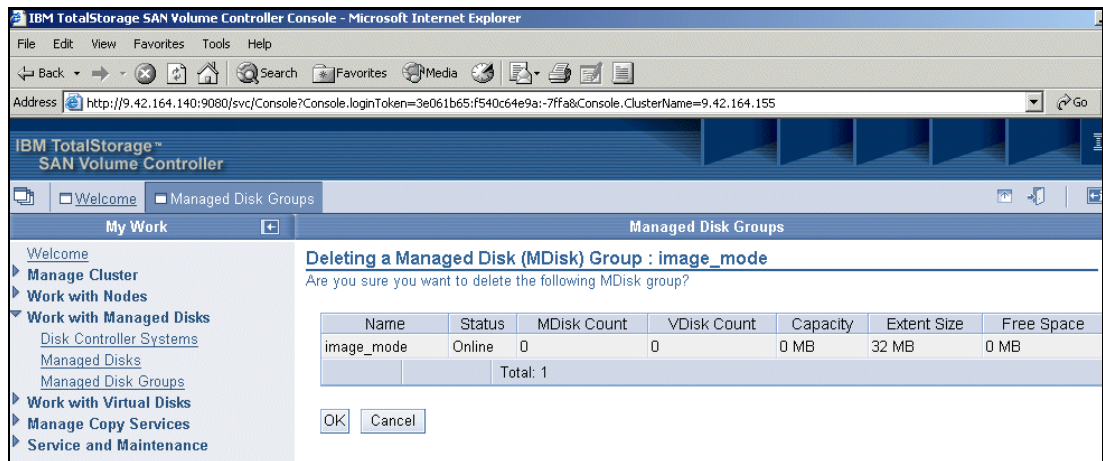

Figure 9-45 Deleting a MDG
2. On the Deleting a Managed Disk (mDisk) Group: *MDGname* panel (where *MDGname* is the MDG you selected in the previous step), click **OK** to confirm that you want to delete the MDG. See Figure 9-45.